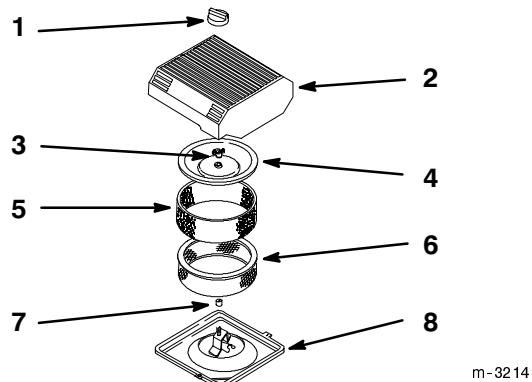

Figure 24
2. Clean around the air cleaner to prevent dirt from getting into the engine and causing damage. Unscrew the knob and remove the air cleaner cover (Fig. 24).
3. Carefully slide the foam element off the paper element (Fig. 24).
4. Unscrew the cover nut and remove the cover and paper element (Fig. 24).
1. Carefully slide the foam element onto the paper air cleaner element (Fig. 24).
2. Place the air cleaner assembly onto the air cleaner base (Fig. 24).
3. Install the air cleaner cover and secure with cover nut (Fig. 24).